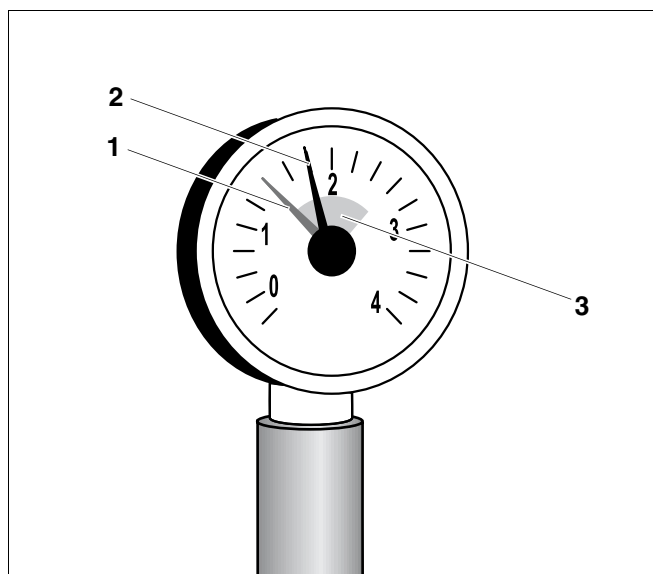

Fig. 4 Pressure gauge for sealed heating systems
- Set the red needle (Fig. 4, **Item 1**) of the heating system pressure gauge to the required minimum pressure of 1 bar.